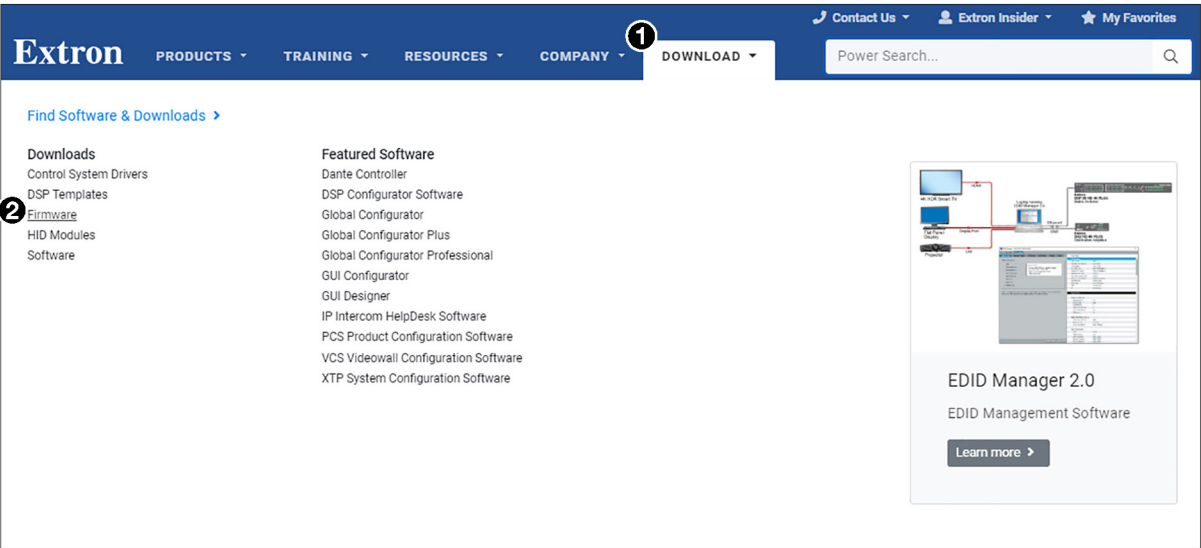

Figure 56. Downloading Firmware from the Extron Website
1. On the www.extron.com, click the **Download** tab (see figure 56, ①).
2. Move the pointer to the **Firmware** link (②) in the Downloads column and click it.